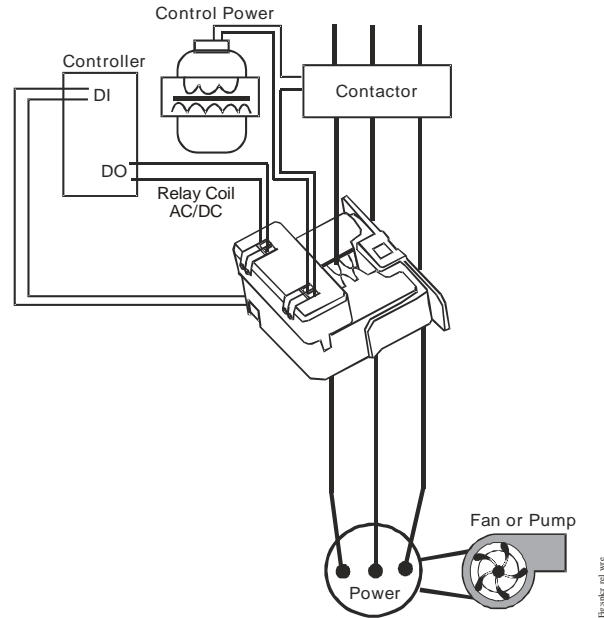

Figure 2: Models CSD-CF0J1-1/CSD-CA1G1-1
3. Wire the CSD/Command Relay as shown in Figure 2.